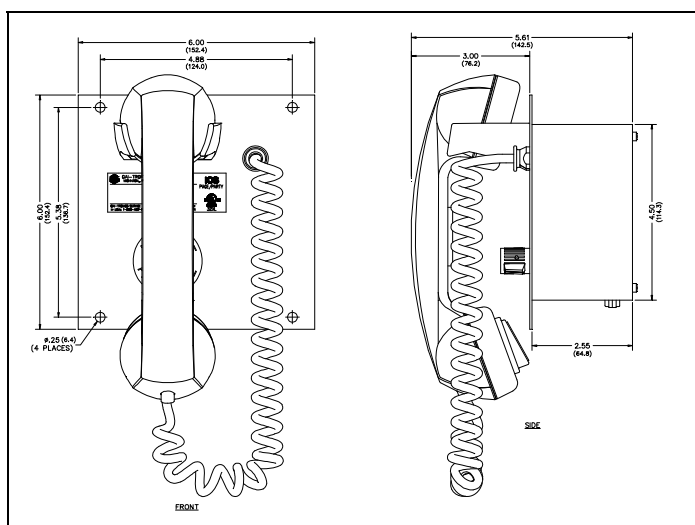
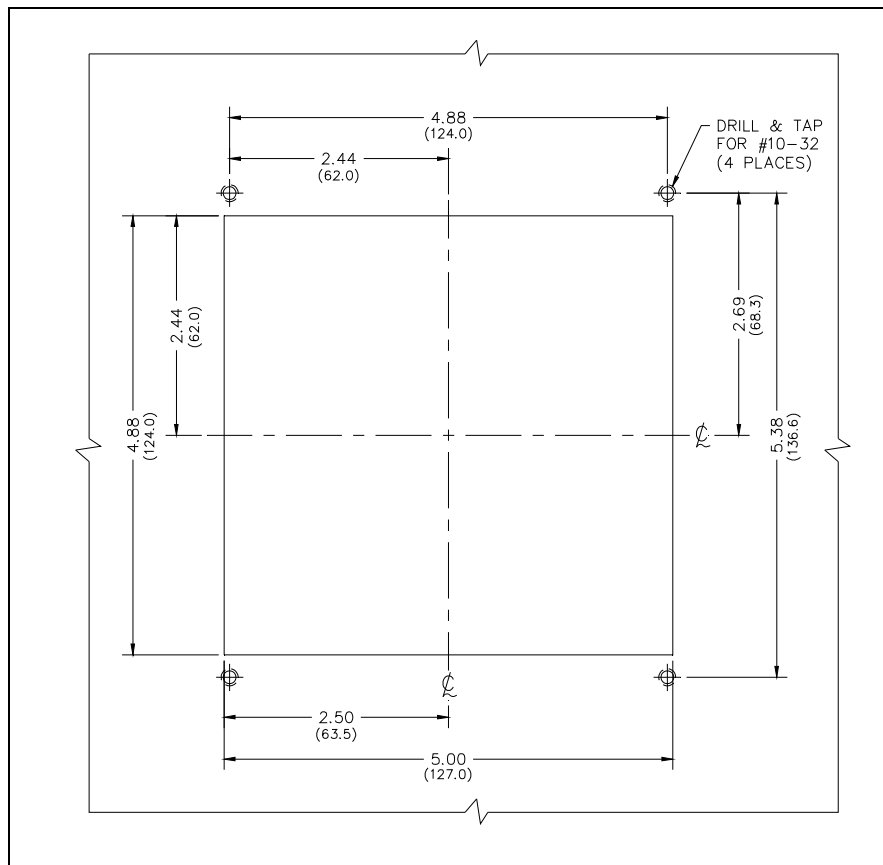

Figure 2. ICS/SP2 Multi-Party Flush-Mount Subset Outline
Figure 3. Flush-Mount Cutout Detail
1. Use the dimensions below (see Figure 3) to create the cutout for the flush-mount subset.
2. Drill and tap four holes to mount the subset in the recess (see Figure 2 and Figure 3).